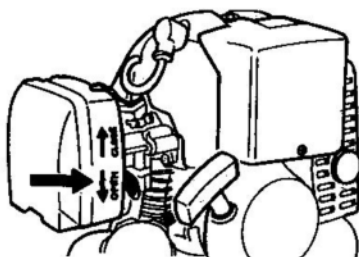

FIG 12
3. COLD START: Slide the choke lever to full choke position (Fig. 12).
7. Slide choke lever to OFF CHOKE POSITION (see Fig. 12). Pull starter rope 1-3 times to start engine and allow the engine to run for a few more seconds on 1/2 throttle lock (engine runs fast). Pull throttle trigger (releases 1/2 throttle lock), & allow throttle trigger to slowly pull back to engine idle.